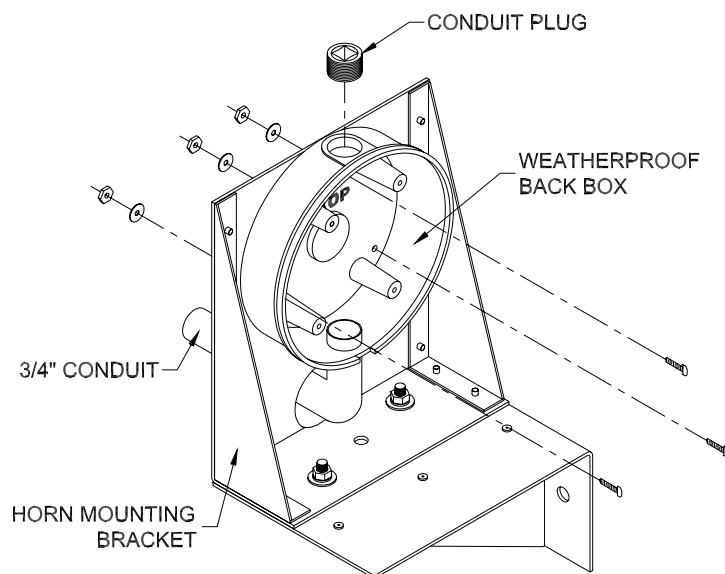

Figure 9 Back Box Mounting Points
10. Attach the weatherproof back box to the mounting bracket using the provided 8-32 x 1/2" Phillips head machine screws, #8 split-lock washers, and 8-32 hex nuts as shown in figure 9.